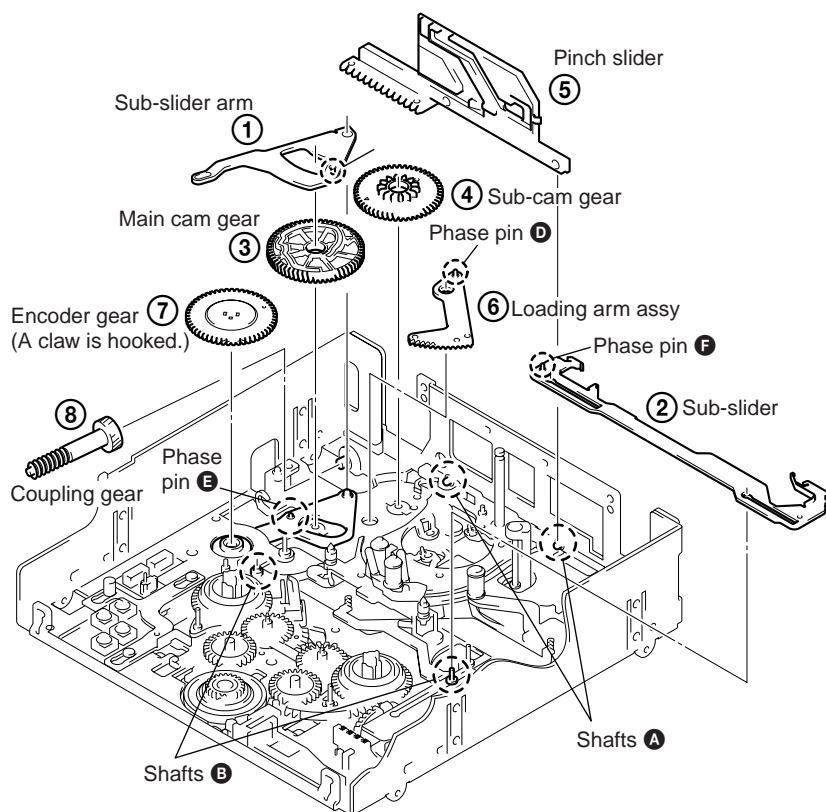

Fig. 1
- ⑤ Attach the adjuster of the TG band to shafts C and D.
- ⑥ Fix the TG band and TG arm with new stop washers. When attaching the TG arm, do not forget to attach the compression coil spring (TG). (Fig. 1)